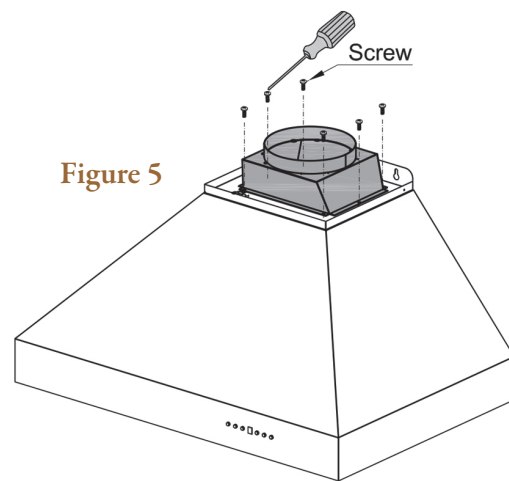

Figure 5
- 6 Install the transition piece securing it with screws provided. (Figure 5)